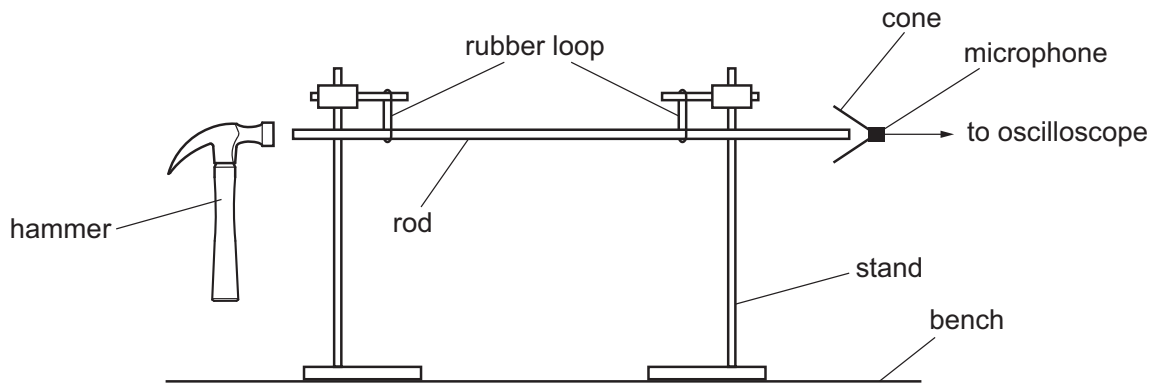

Fig. 2.1 (not to scale)
- 2 A student investigates the resonant frequency of a metal rod. The metal rod of length L is suspended from two rubber loops. A sensitive microphone with a cone is positioned at one end of the rod. The microphone is attached to an oscilloscope, as shown in Fig. 2.1.